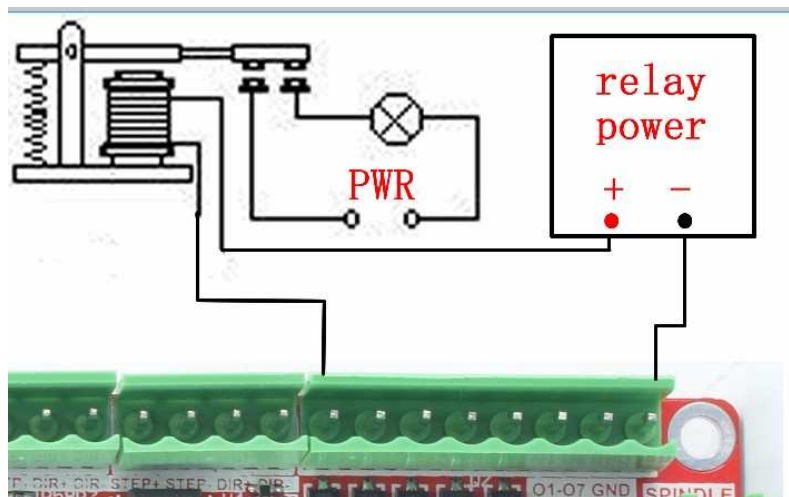

Figure2-6. Open drain port Wiring methods of O1-O5
H) Low 8 General IO output interface, have a current drive capability within 10MA, defined as O1、O2、O3、O4、O5、O6、O7、GND from left to right. O1-O5 are Open drain port. The Maximum drive current up to 100MA, wiring methods see as Figure2-6.